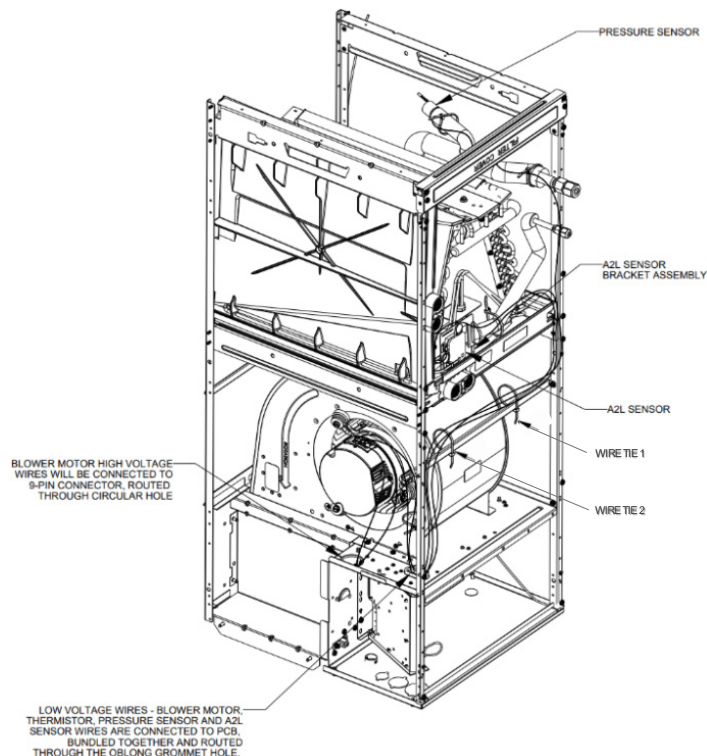

Figure 3
1. Before flipping the CMXV air handler, remove blower access panel and coil access panel. The coil access panel and tubing panel may remain screwed together during this procedure. Remove and retain the seven (7) screws securing the coil access panel to the cabinet and the six (6) screws securing the blower access panel to the cabinet.
2. Before removing the coil, Cut Wire Tie 1, 2 shown in Figure 3 and disconnect sensor wires (Thermistor Wire Harness, A2L Sensor Wire Harness, and Pressure sensor Wire Harness) from wire harnesses connectors connected to PCB and secure. Unbundled the wires by cutting Wire Tie.
5. Reroute the wire harnesses shown in Figure 3 (Downflow) and Figure 6 (Horizontal Right), secure with wire tie 1 and 2 shown in Figure 3, connect sensor wires (Thermistor Wire Harness, A2L Sensor Wire Harness, and Pressure sensor Wire Harness) with wire harnesses connectors connected to PCB and secure bundled wires after the installation with a Wire Tie according to the requirement of the wire lengths.